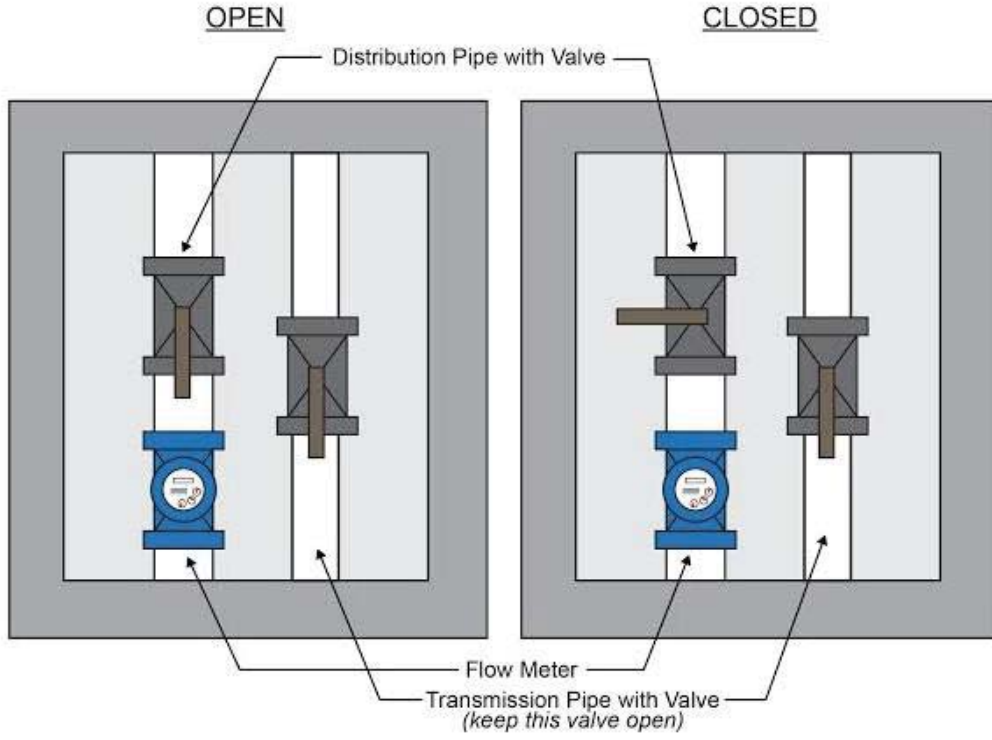

Figure 3 - Distribution Main Valve at Tank
At the beginning of each day, open the valve on the distribution main where it leaves the tank (See Figure 3) as follows:
2. Open the distribution main valve by slowly turning the handle a quarter turn as shown in Figure 3. When open, the valve handle is in line with the pipe.
3. Verify the valve on the transmission main is half open as shown in Fig 3. When half open, the valve handle is at 45 degrees relative to the pipe. This valve should never be closed.